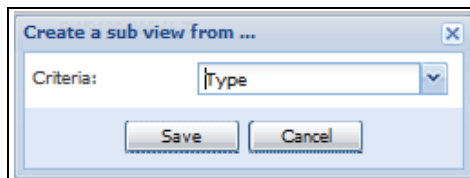

Figure 240. Select Type
2. Right-click and select Create a sub view from (see Figure 240).